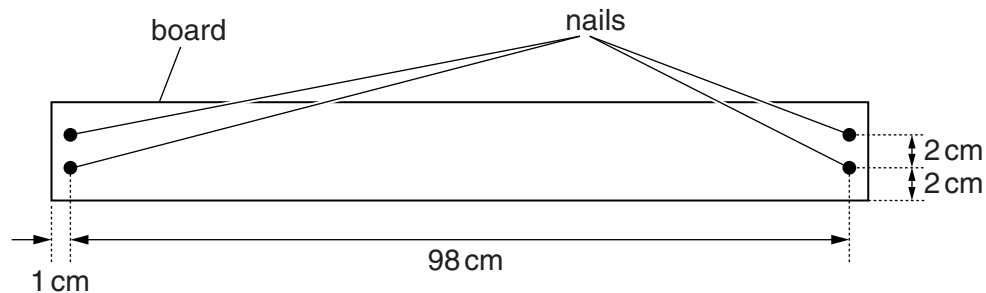

Fig. 1.1
- The nails should be hammered into the board in the positions shown in Fig. 1.1.